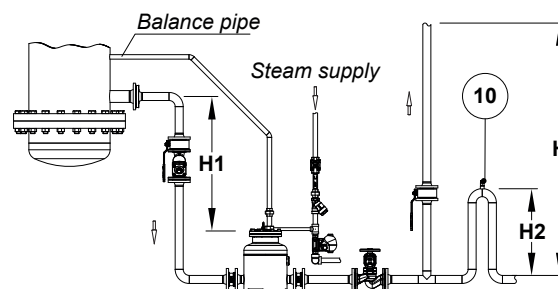

Fig. 3
This configuration works with units operating with a minimum absolute pressure of 0,2 bar (Fig. 3). For proper operation the filling head (H_1) must range between 1 and 2 meters. The lift (H) must be as minimum as possible, but never less than 1 meter, otherwise a siphon with height (H_2) is required. Steam must be used as motive medium, and its maximum pressure should not exceed 3 bar.